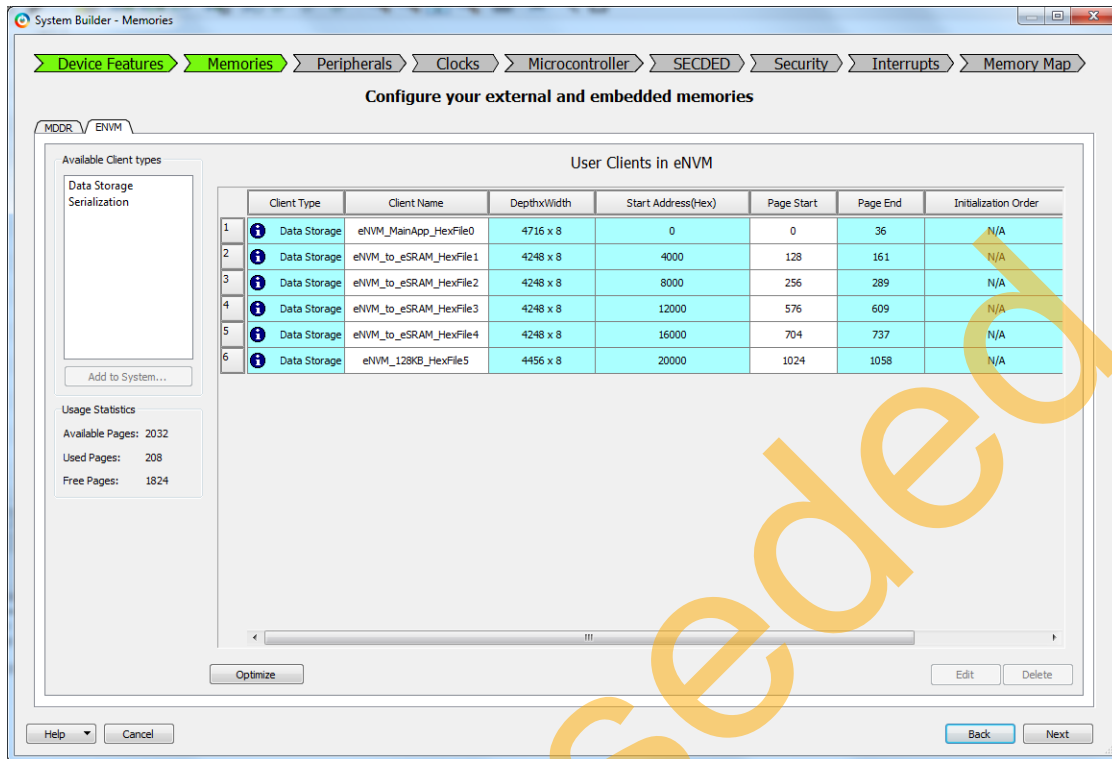

Figure 45 • Hex Files with Correct Start Addresses
7. Add the remaining Hex Files with their corresponding start addresses as shown in Figure 45.
Figure 45 shows the correct memory locations chosen. It does not display any error.
8. In the **System Builder - Memories** page (see Figure 45), keep the other settings to default and click **Next**.